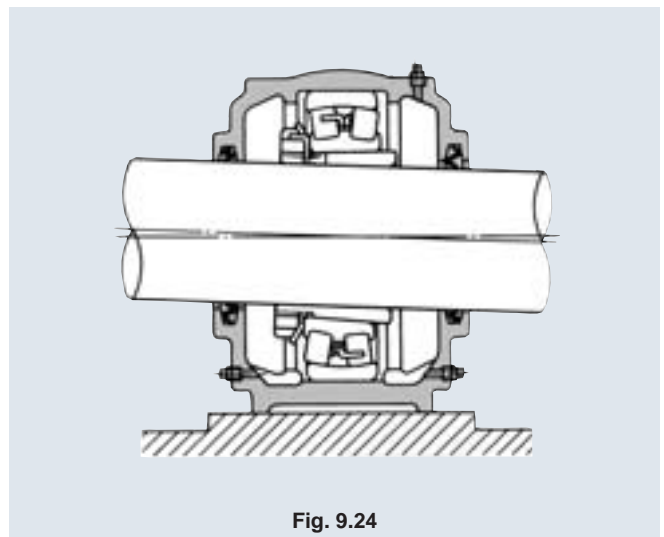

Fig. 9.24
- (3) Adjust the position of the plummer block of the non-locating bearing to center the bearing to the bearing seating. If the plummer block is to be used in a high temperature environment, carefully position the bearing considering the thermal expansion of the shaft.
- (4) Once the bearing is correctly located, check the squareness of the plummer block relative to the shaft (make sure the face of bearing inner ring is parallel with that of the outer ring). Only then, fully tighten the nut. Remember a larger mounting error can cause the seal to fail or the shaft to interfere with the bearing bore, leading to non-smooth running (**Fig. 9.24**). If such a problem occurs, correct the mounting seat, and then, install the lower plummer block housing.